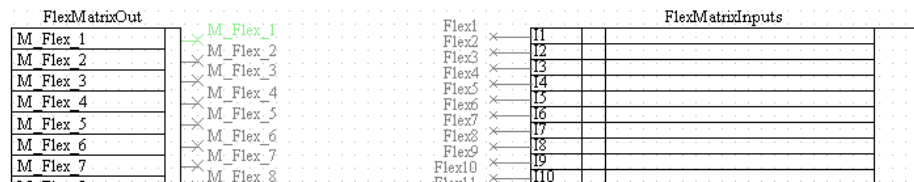

Figure 197 – Setting logic connections
a) using combination CTRL+SHIFT and left mouse button select the element output marker (output is colored green (figure 197));